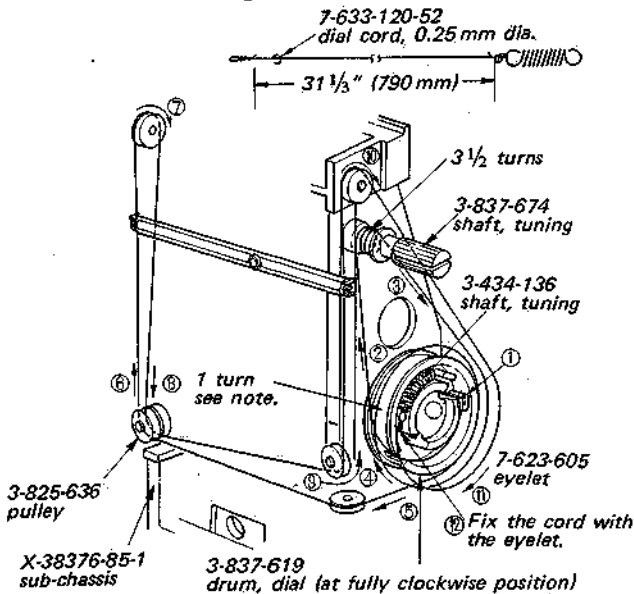

Fig. 2-11.
2. Cut the dial cord by the specified length as shown in Fig. 2-11.
1. Fix the dial cord to the protrusion (step ①) and string the cord in numerical order as shown in Fig. 2-11.